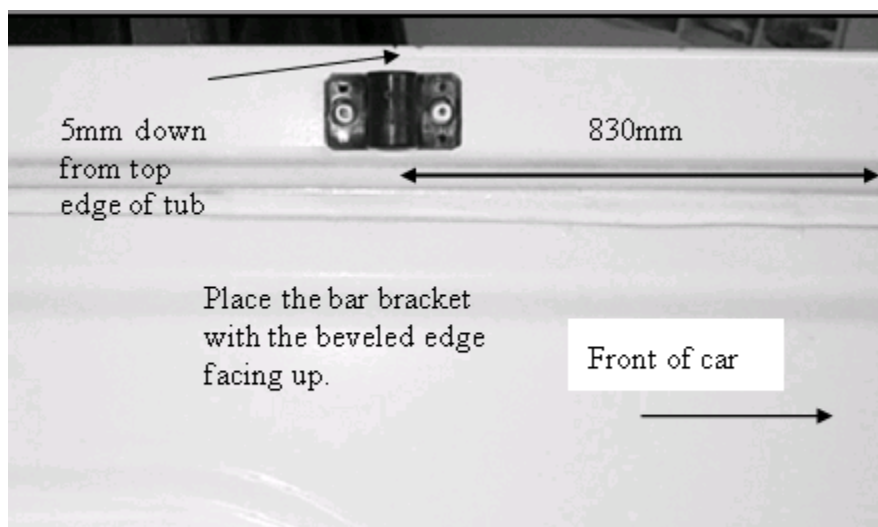

Figure 2
5. To fit the bar brackets, measure 830mm back from the inside front edge at the top of the tub and place them as shown in Figure 2 (5mm from top edge of tub). For each Bar Bracket, drill and rivet using two large rivets. Fit Bunji Loops to Body Hooks, starting at the rear then fitting the side bunjis.